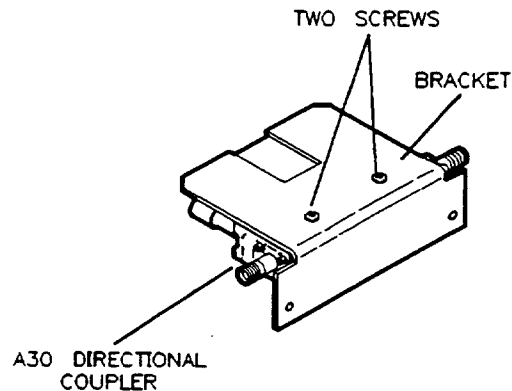

Figure 7-43. A30 Directional Coupler Bracket
1. Remove the two screws holding directional coupler A30 to the bracket (Figure 7-43).